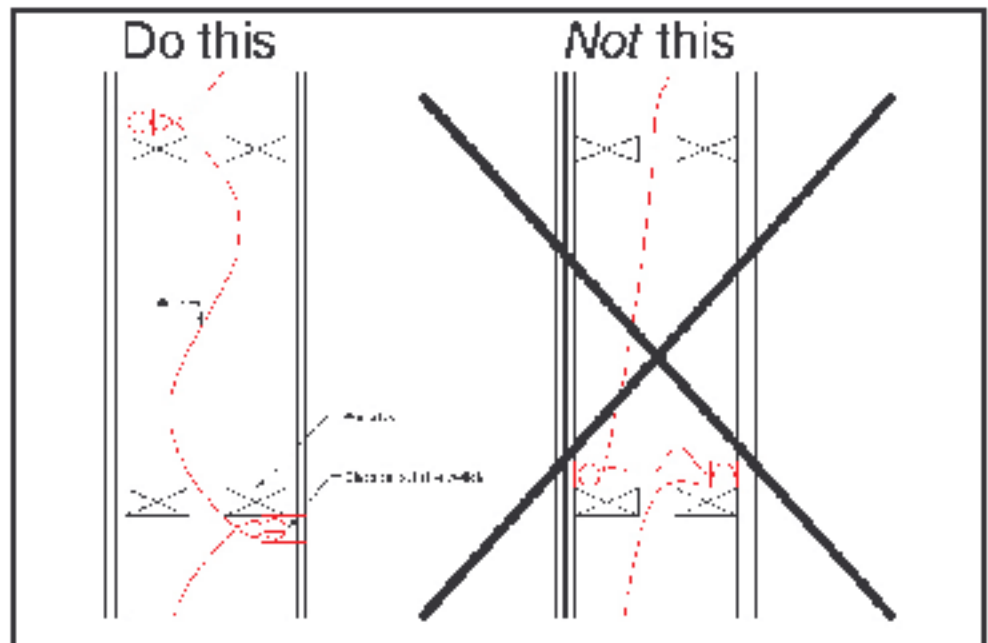

Figure 3.6 - Placement of electrical boxes, e.g. outlets and switches
- Never mount electrical boxes or connector panels back to back; always stagger them as shown in the *Figure 3.6*. Seal the holes your wires go through, or (preferably) run wire through conduit, stuffing foam or insulation in the ends to help seal it. Isolating the conduit from the structure with *SheetBlok* or hanging it with resilient hangers can really offer some improved isolation. Remember: *Sound control is a game of inches.™*